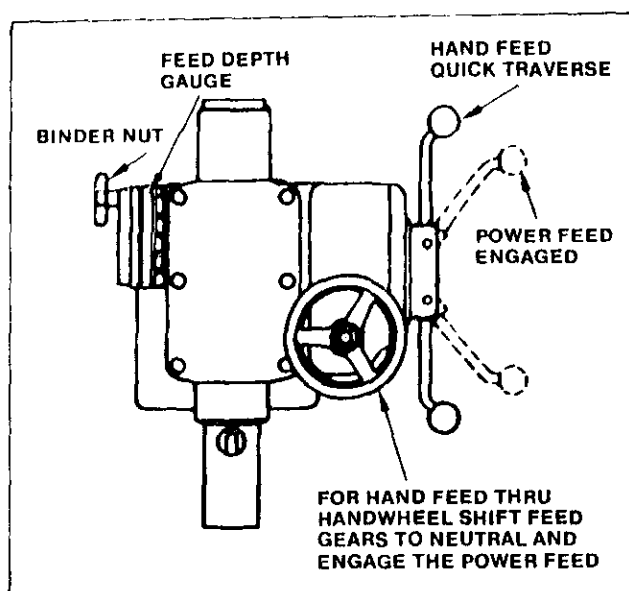

Figure 4. Hand Feed and Power Feed Controls
1. To engage the power feed, thrust either of the quick traverse (turnstile) levers outward or to the right (see Figure 4). A light thrust inward will disengage the power feed. It is not necessary to hold the power feed engaged, merely thrust out on the lever and then let it go. **DO NOT RIDE YOUR HAND ON THE QUICK TRAVERSE LEVERS.** Holding the power feed engaged will cause the spindle to feed past the desired point.